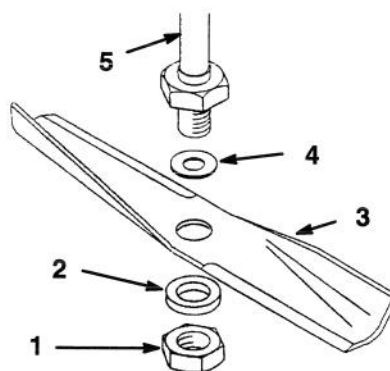

Figure 18
3. Remove the nut, flat washer, blade, and washer (Fig. 18). A block of wood may be wedged between the blade and the mower to lock the blade when you are removing the bolt.